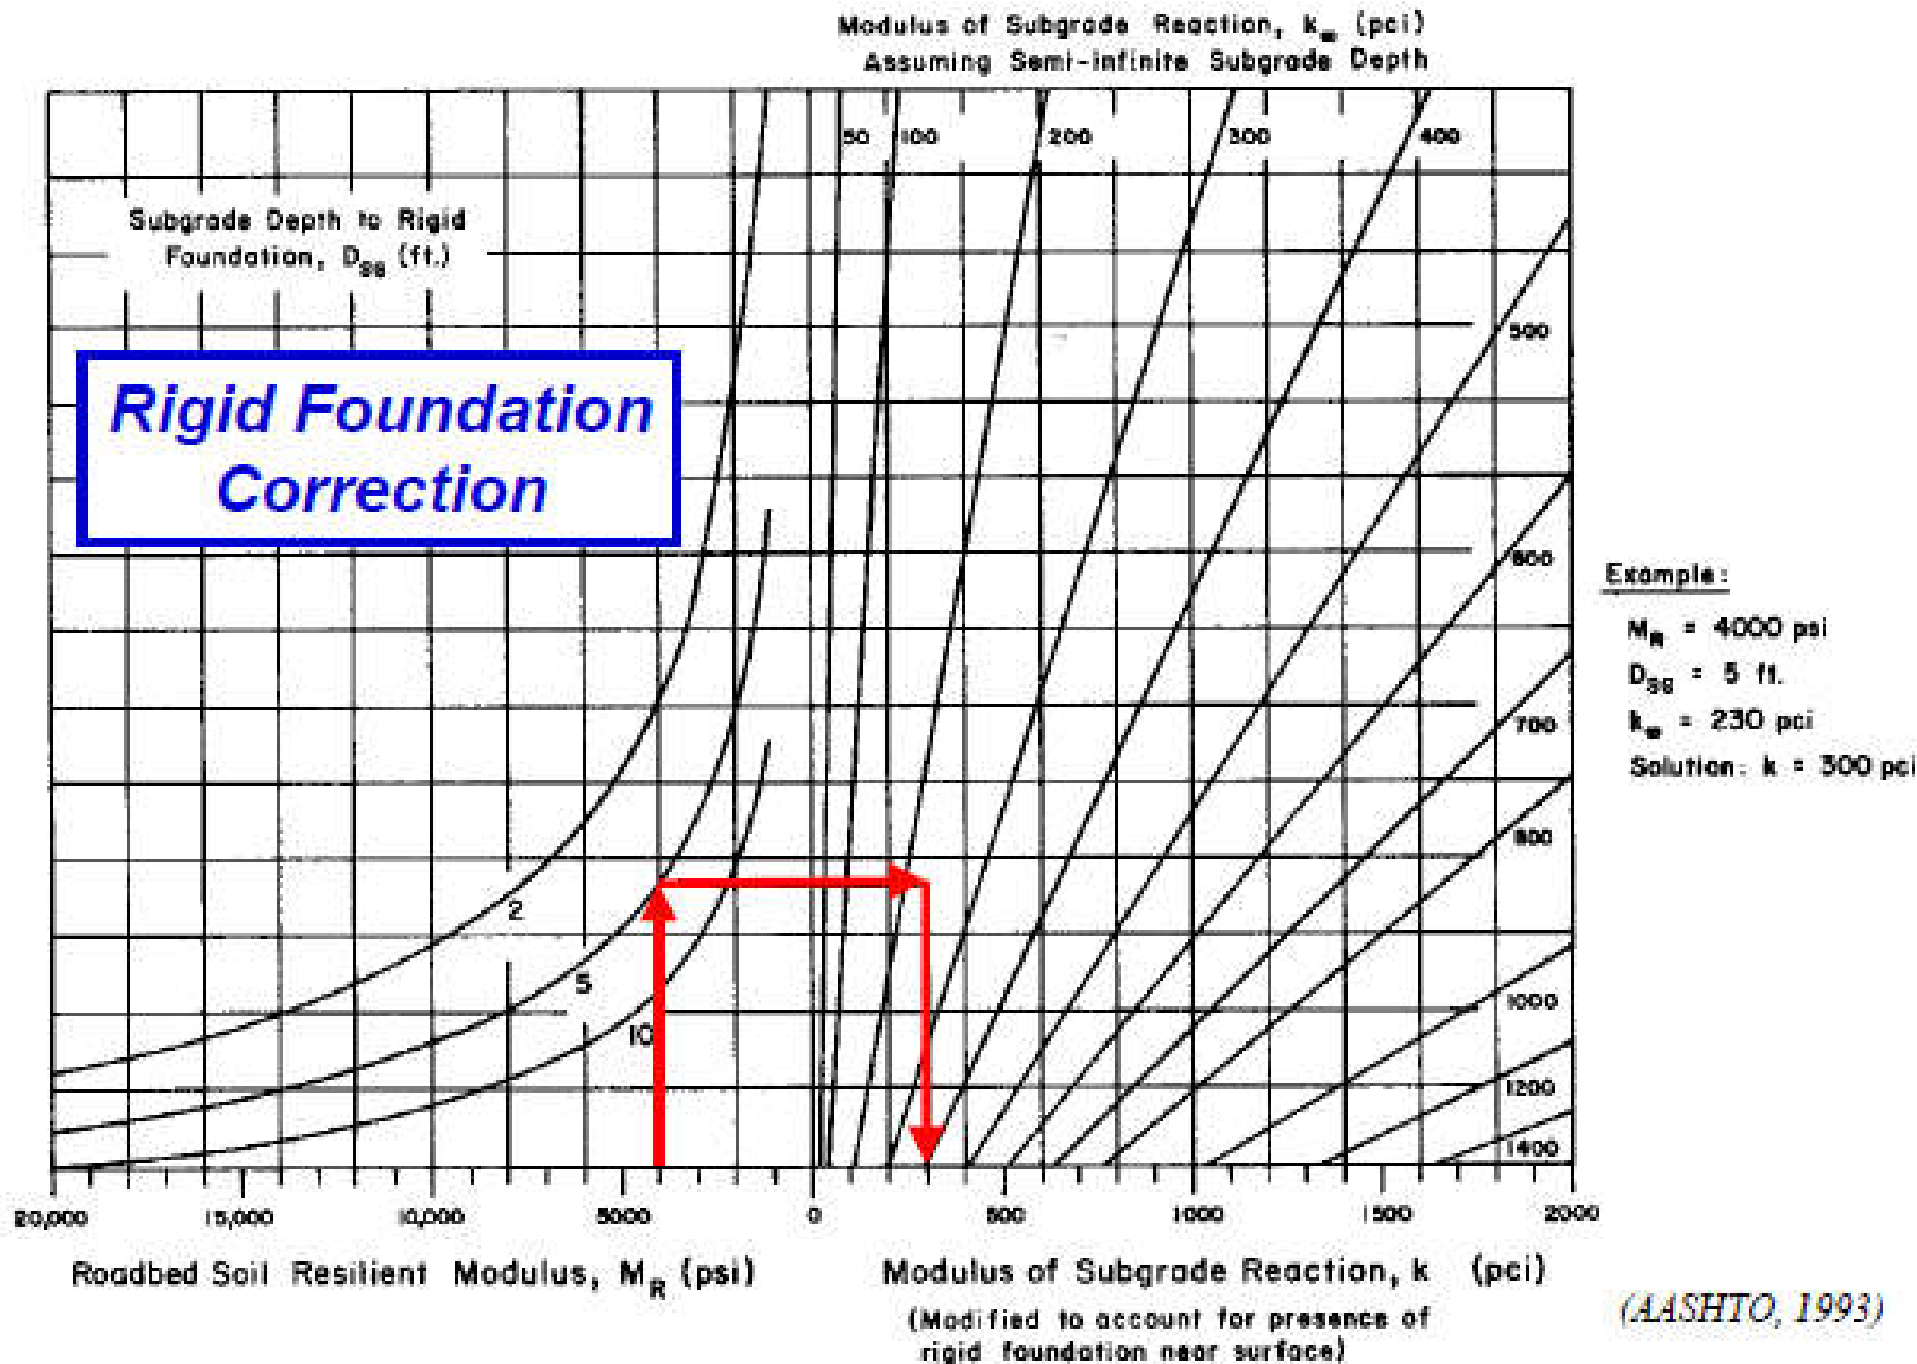

Figure 3.4. Chart to Modify Modulus of Subgrade Reaction to Consider Effects of Rigid Foundation Near Surface (within 10 feet)
- If depth to rigid foundation < 10 feet, correct k for effect of rigid foundation near the surface (Figure 3.4)